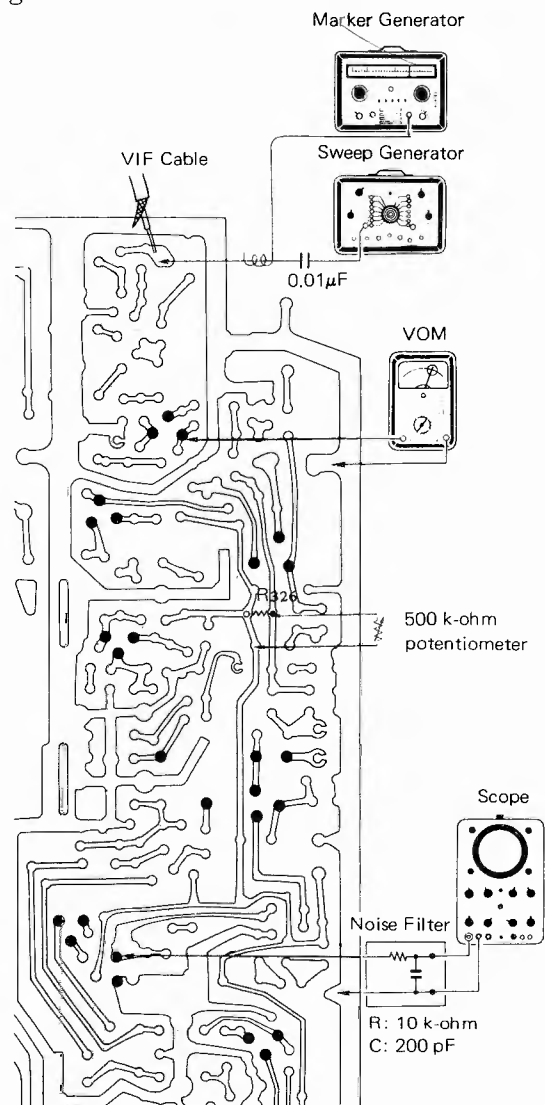

Fig. 15 Preparation for VIF adjustments.
2. Connect the VOM to the emitter of 1st VIF amplifier Q301. (See Fig. 15)
6. Connect a 500 k-ohm potentiometer across resistor R326 as shown in Fig. 15.
7. Unsolder the VIF cable which is connected to the BF circuit board in Fig. 15.
8. Connect a sweep generator to the point where the VIF cable was connected. Use a $0.01\mu\text{F}$ isolation capacitor as shown in Fig. 15.
10. Connect a scope to the VIF output terminals (across D401) through a noise filter consisting of a 10 k-ohm resistor and 200 pF capacitor as shown in Fig. 15.
2. Connect the 500 k-ohm potentiometer across resistor R326. (See Fig. 15)